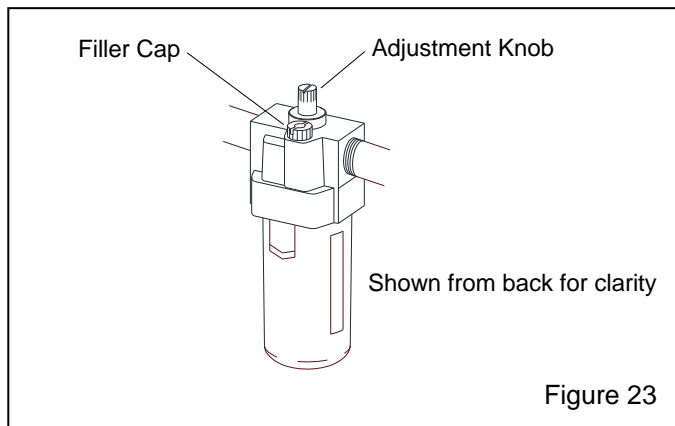

Figure 23
5.4 Lubricator, Water Pump, Figure 23